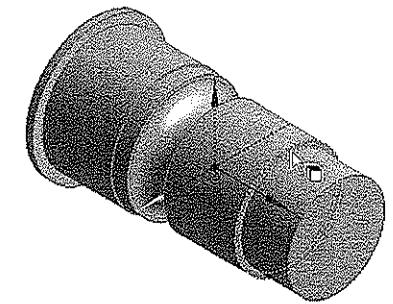

Figure 5-64 Selecting the flat face of the revolved feature
1. After creating the revolve feature, you need to create the extrude feature, refer to Figure 5-58. To do so, choose the **Faces** tool in the **Select** toolbar and then click on the flat face of the revolve feature, as shown in Figure 5-64.